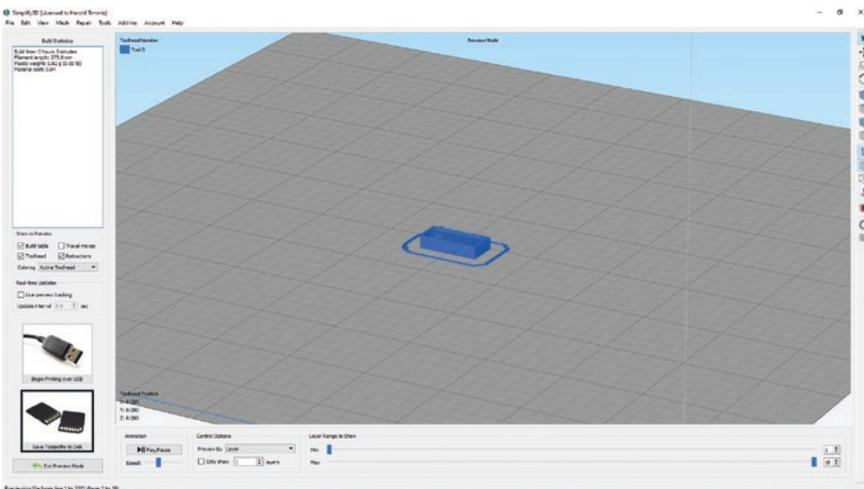

Figure 4-54. When ready, click the “Save Toolpaths to Disk” button
11. Finally, you will need to create the G-code your printer will use to create the 3D object. Click the “Save Toolpaths to Disk” button and save the file to your computer or an SD card. See Figure 4-54.